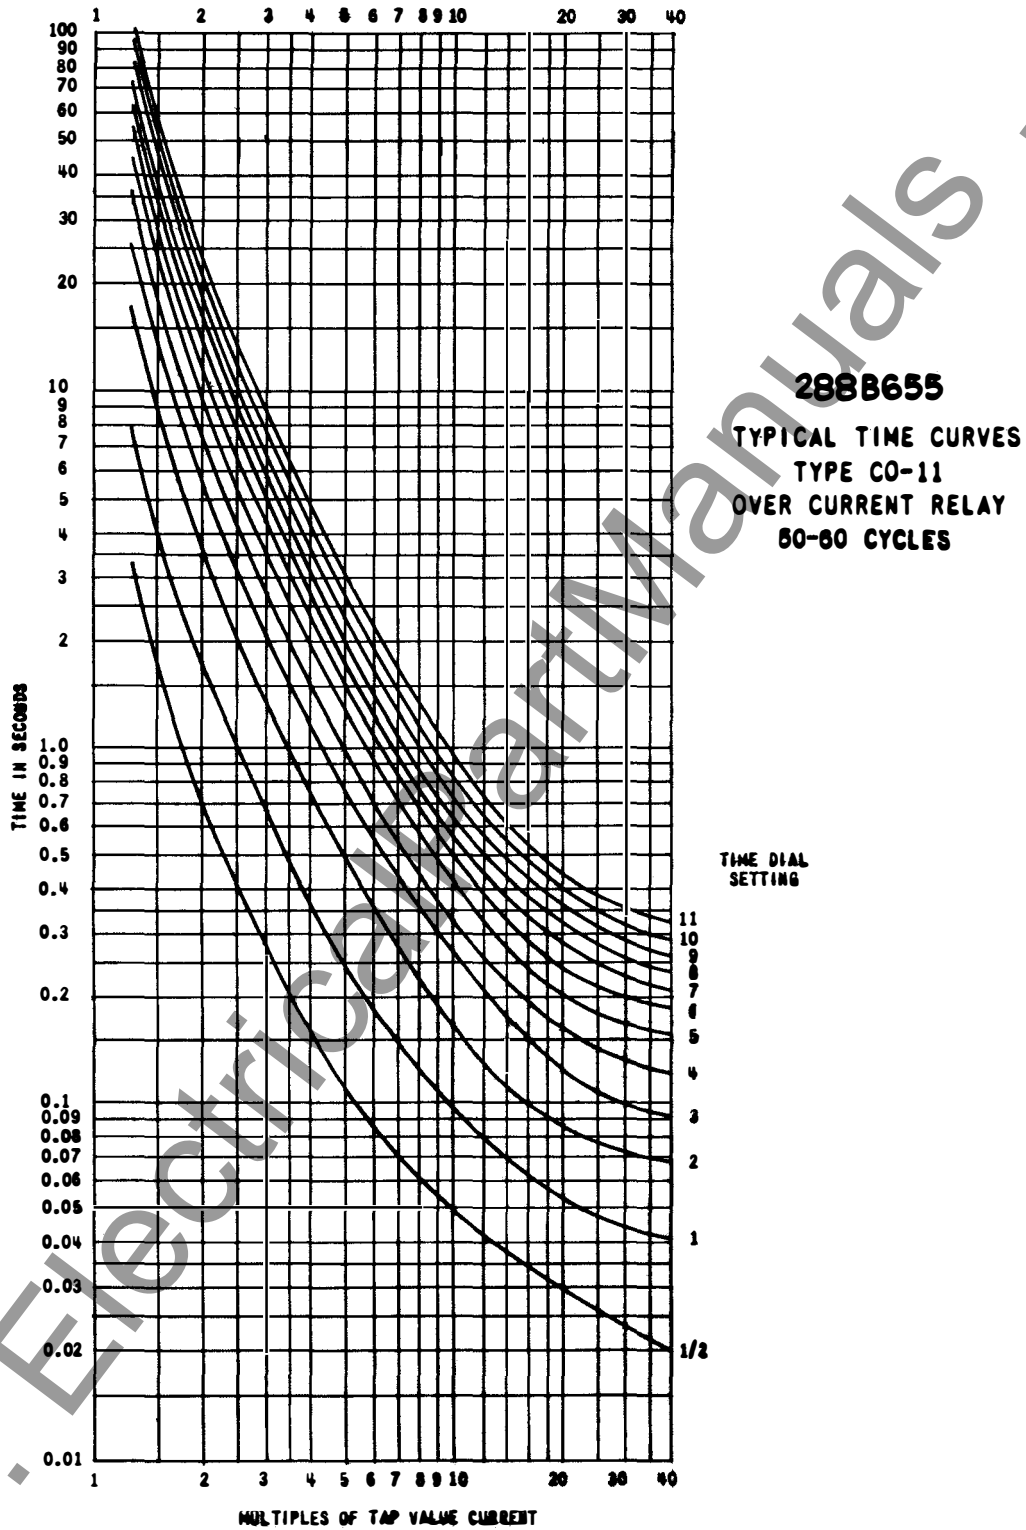

Fig. 13. Typical Time Curves of the Type CO-11 Relay.
3. Time Curve — For type CO-11 relay only, the 1.30 times tap value operating time from the number 6 time dial position is 54.9 ±5% seconds and should be checked first. It is important that the 1.30 times tap value current be maintained accurately. The maintaining of this current accurately is necessary because of the steepness of the slope of the time-current characteristic (Figure 13). A 1% variation in the 1.30 times tap value current (including measuring instrument deviation) will change the nominal operating time by approximately 4%.
For type CO-11 relay only, the 1.30 times tap value operating time from the number 6 time dial position is $54.9 \pm 5\%$ seconds. It is important that the 1.30 times tap value current be maintained accurately. The maintaining of this current accurately is necessary because of the steepness of the slope of the time-current characteristic (Figure 13). A 1% variation in the 1.30 times tap value current (including measuring instrument deviation) will change the nominal operating time by approximately 4%. If the operating time at 1.3 times tap value is not within these limits, a minor adjustment of the control spring will give the correct operating time without any undue effect on the minimum pick-up of the relay. This check is to be made after the 2 times tap value adjustment has been completed.